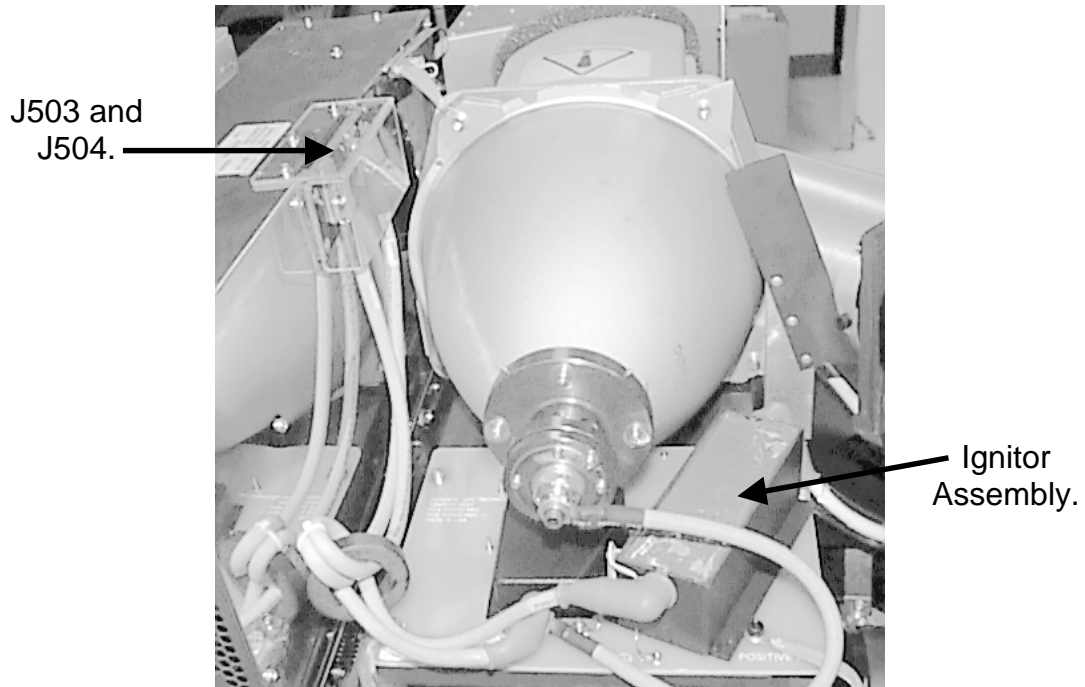

Figure 4-3 Model 330 Arc Lamp and Ignitor Assembly (P/N 900611S), shown without Heat Sink attached)
3. Multiply the two (2) figures from Item 1 and from Item 2 together.
5. Adjust the Lamp Current Adjust pot (see **CAUTION** below Table 3-1) on the top of the SPS (refer to Figure 4-3) until this result is within the appropriate HJT model spec indicated in Table 3-1).
NOTE: Whenever an Arc Lamp is replaced the Collimating Lens (Figure 4-3) may need to be readjusted to obtain maximum brightness. Follow the procedure in Section 4.4.3 to readjust the Collimating Lens.
10. Remove the screw securing the wire bundle clamp to the power supply (*Figure 4-3*).
11. Unplug the three (3) system power supply connectors (*Figure 4-3*).
12. Loosen and release the two (2) captive screws at the base of the power supply (*Figure 4-3*). Ensure the nylon spacers on the captive screws do not get lost.